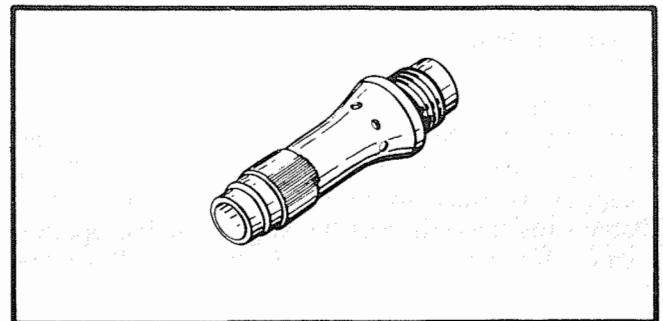

Figure 7-99. Spark Plug Hole Plug
c. Install plug 802112 (figure 7-99) in the spark plug hole as soon as the spark plug is removed.